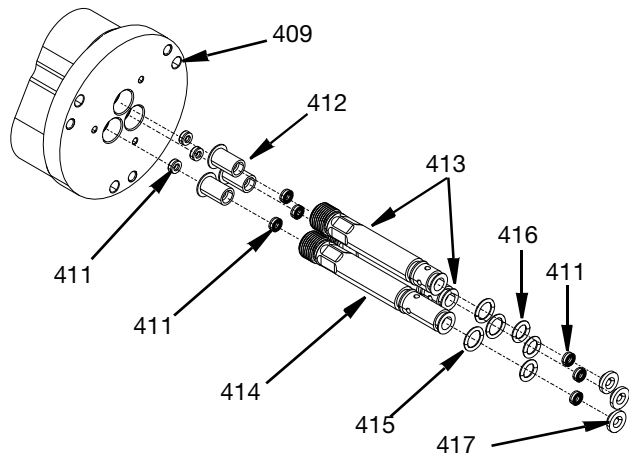

FIG. 17
5. Using a knife edge tool or screwdriver, carefully pry the lower bearings (417) out of the seal bearing guides (413-414). Discard lower bearings.
6. Using a hook tool extract the needle packing (411) seals from the seal bearing guide side and discard.
7. Remove the two needle packing (411) seals and upper bearings (412) from the seal bearing guides and discard the needle packing and upper bearings.
8. Remove the O-rings (415 and 416) and discard. See FIG. 17.